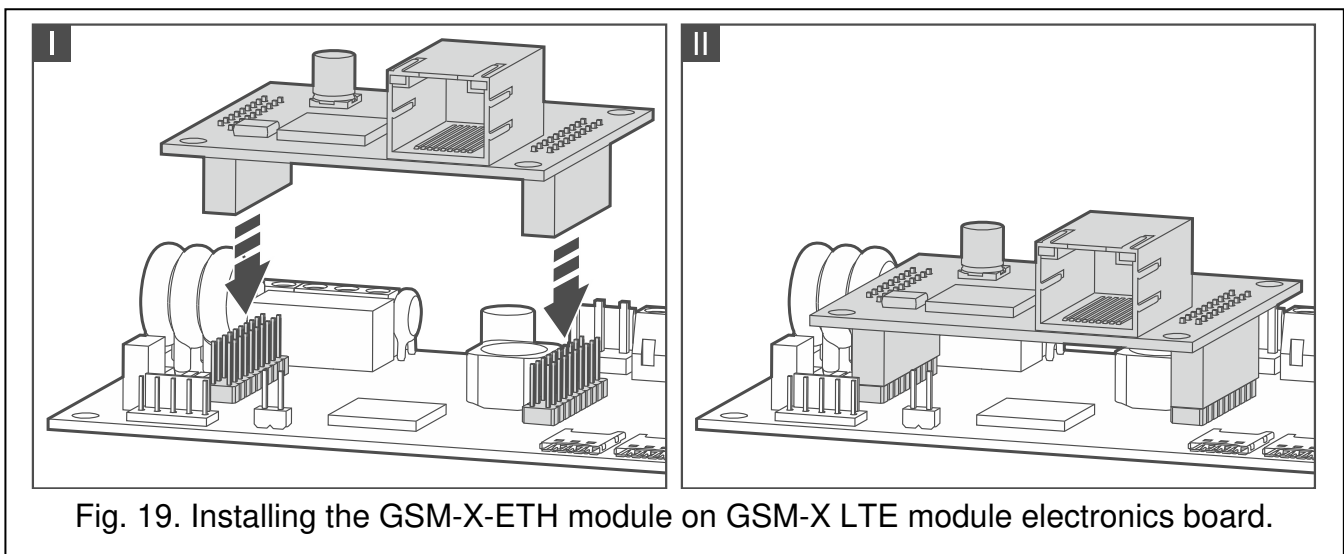

Fig. 19. Installing the GSM-X-ETH module on GSM-X LTE module electronics board.
3. Install the GSM-X-ETH Ethernet module in the connectors on the GSM-X LTE module electronics board (Fig. 19).